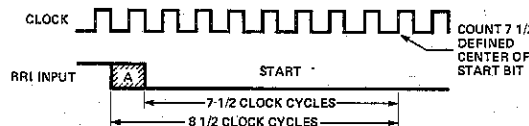

FIGURE 9. Start Bit Timing
The receiver uses a 16X clock for timing (see Figure 9.) The start bit ① could have occurred as much as one clock cycle before it was detected, as indicated by the shaded portion. The center of the start bit is defined as clock count 7 1/2. If the receiver clock is a symmetrical square wave, the center of the start bit will be located within  $\pm 1/2$  clock cycle,  $\pm 1/32$  bit or  $\pm 3.125\%$ . The receiver begins searching for the next start bit at the center of the first stop bit.